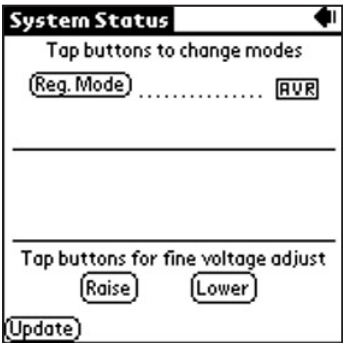
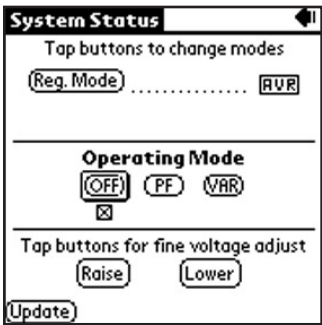

Figure 6-22. System Status Without Operating Mode Screen
Figure 6-23. System Status With Operating Mode Screen
The System Status Without Operating Mode Screen shown in Figure 6-22 is accessed from the Main Screen (Figure 6-14) by tapping the arrow on the Other Pages: line and then tapping System Status. The System Status Screen displays the current mode setting.
If the Var/PF option is installed, the Systems Status Screen may be different than that of Figure 6-22. This is illustrated in Figure 6-23, System Status With Operating Mode Screen. The Operating Mode segment of the System Status Screen (Figure 6-23) has three buttons labeled OFF, PF and VAR. A box around the Operating Mode's OFF, PF and VAR buttons indicates which mode is selected. A checked box below the buttons indicate which of the three modes the DVR2000E is currently operating in. The figure also shows that the selected operating mode is VAR while the DVR2000E is operating in OFF (AVR mode). Tapping the PF button places the DVR2000E in the power factor operating mode and causes a checked box (☒) to appear below the PF button. Tapping the VAR button places the DVR2000E(C) in the VAR operating mode and causes a checked box to appear below the VAR button. Tapping the OFF button disables both power factor and var regulation and places a checked box below the OFF button. The example of Figure 6-23 shows that power factor and var regulation are disabled.
Fine adjustments to the operating setpoint are made by tapping the Raise and Lower buttons of the System Status Without Operating Mode Screen (Figure 6-22). (The fine adjustment through the front panel push buttons only controls the voltage setpoint.) An arrow serves as a reminder of which button was last tapped. In AVR mode, a single tap of the Raise or Lower buttons increments or decrements the generator voltage by 0.1 volts and the range of which is constrained by the Generator Rated Voltage and the Generator Voltage Adjust Band settings. For